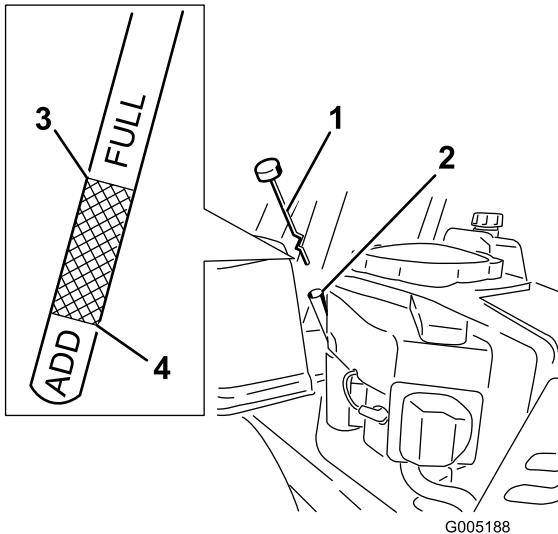

Figure 29
- Unscrew and remove the dipstick; wipe oil off (Figure 29). Reinsert the dipstick into the tube and rest the cap on the tube. Do not screw the cap onto the tube.
- Pull the dipstick out and check the oil level. (Figure 29). The oil level should be up to, but not over, the “FULL” or “F” mark on the dipstick
- Remove the oil fill cap/dipstick (Figure 29).
13. Slowly pour approximately 80% of the specified oil into the filler tube (Figure 29).
14. Install the oil fill cap/dipstick (Figure 29).
15. Check the oil level (Figure 29); refer to Checking the Oil Level.
17. Install the oil fill cap/dipstick and screw tight (Figure 29).